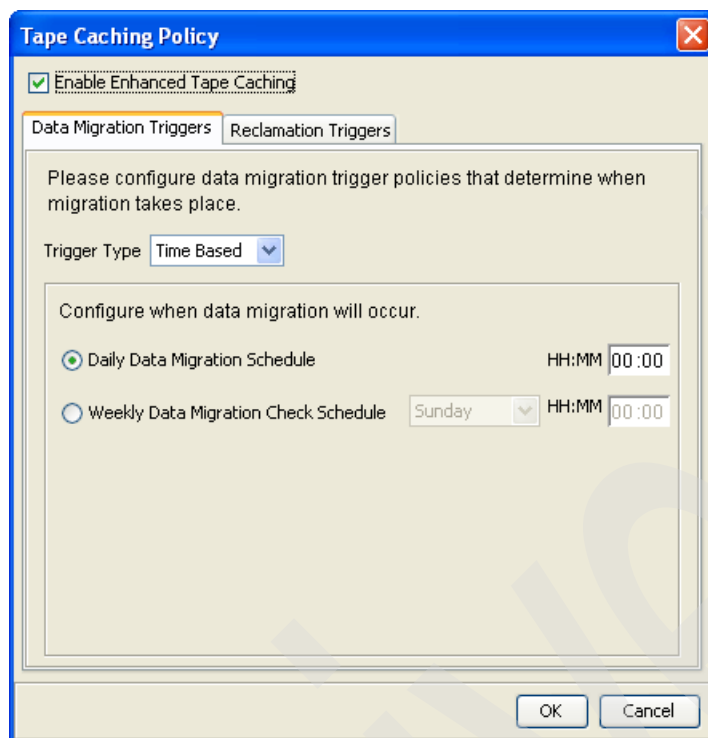
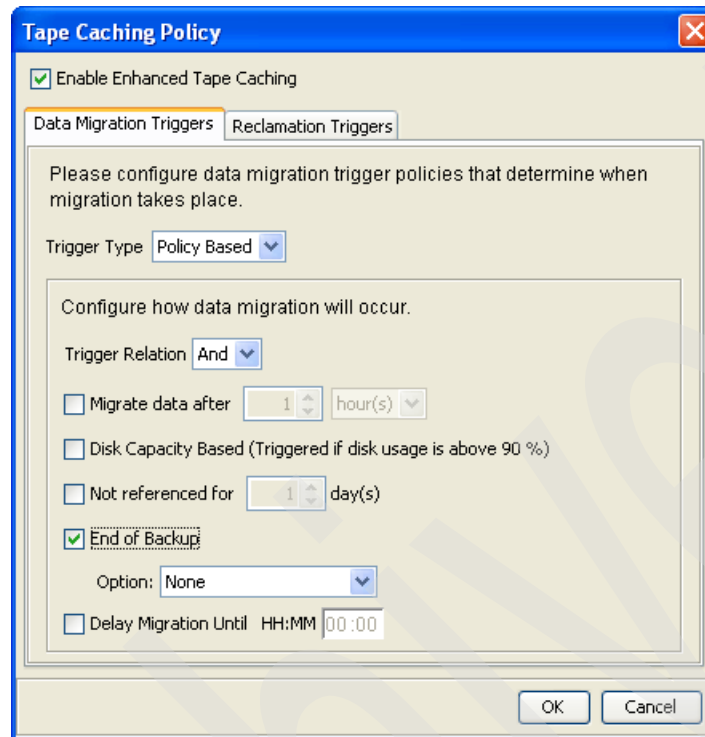

Figure 12-40 Enable Tape Caching with time-based triggers
Figure 12-41 Enable Tape Caching with policy-based triggers
2. Select the **Enable Enhanced Tape Caching** check box and choose either time-based or policy-based triggers, as shown in Figure 12-40 and Figure 12-41 on page 402.
For example, if you select both **Age Based** and **Disk Capacity Based** and click **And** (Figure 12-41), data migration will occur only when both the specified number of days has elapsed and the specified disk capacity has been reached. If you click **Or**, the occurrence of either one of those events will trigger the data migration.